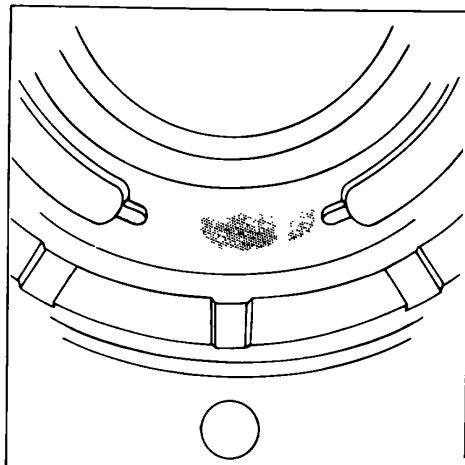

Figure 221.
a. On variable motors, lower the cam assembly (B) and rotating group (C) over motor shaft (S).
b. Install O-ring (Z) on adapter (F) and lower housing (Y) over assembled parts. Secure housing (Y) to adapter (F) with hex bolts (D) and lock washers (E) and torque to 450 in. lbs.
c. Inspect trunnions (T) for galling or scratches. Small nicks or burrs may be removed with 500 grit emery cloth. Trunnions with large scratches or irregularities that can be felt with the fingernail should be discarded.
d. Assemble new trunnion thrust bearings (U) and gaskets (V) on trunnions (T). Using a large.
20. Inspect the motor cover (4) bronze face for signs of cavitation, excessive wear, contamination or other damage. See Fig 221. If circular wear patterns cannot be felt with a fingernail and if there are no nicks, scratches or other damage, one or two passes across 500 grit emery paper on a lap table, will put the bronze face in like-new condition.